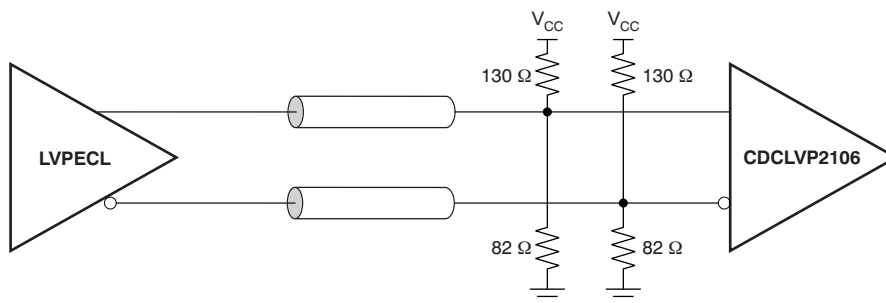
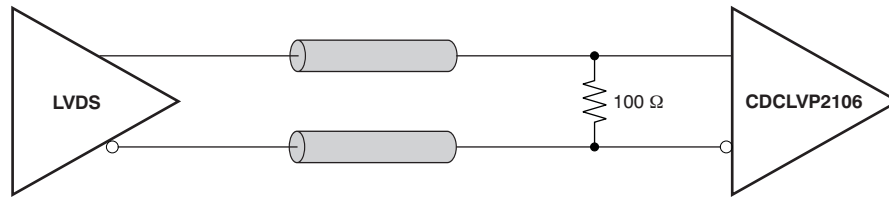

Figure 5. DC-Coupled LVPECL Input During Device Test
Figure 6. DC-Coupled LVDS Input During Device Test
(1) Figure 5 and Figure 6 show dc test setup. Figure 7 shows ac test setup.